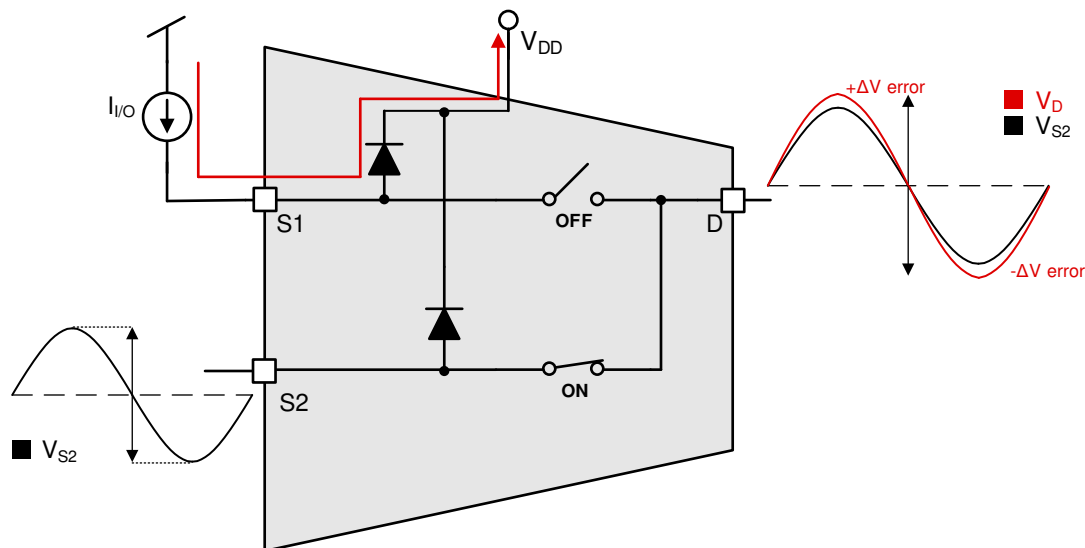

Figure 8-14. Injected Current Impact on  $R_{ON}$
**Change in  $R_{ON}$  due to Current Injection:** Because the ON resistance of the enabled FET switch is impacted by the change in the supply rail, when the drain pin voltage exceeds the supply voltage by more than a  $V_T$ , an error in the output signal voltage can be expected. This undesired change in the output can cause issues related to false trigger events and incorrect measurement readings, potentially compromising the accuracy and reliability of the system. As shown in Figure 8-14, S2 is the enabled signal path that is conducting a signal from S2 pin to D pin. Because there is an injected current at the disabled S1 pin, the voltage at that pin increases above the supply voltage and the ESD protection diode is forward biased, shifting the power supply rail. This shift in supply voltage alters the  $R_{ON}$  of the internal FET switches, causing a  $\Delta V$  error on the output at the D pin.